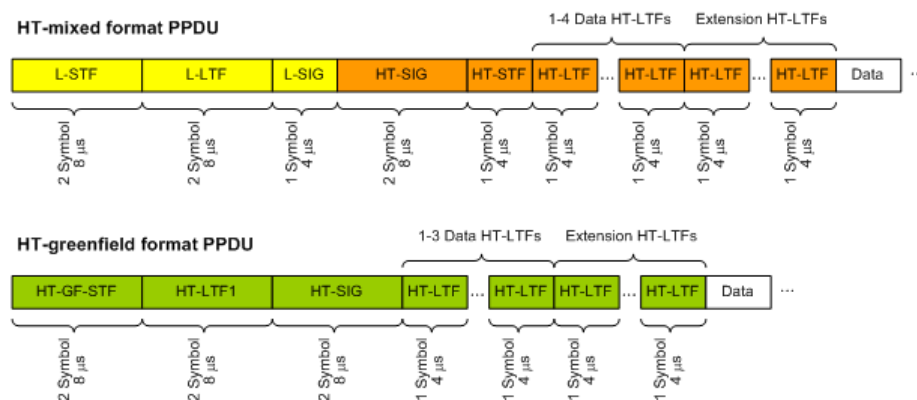

Figure 4-4: Training fields (TF) in the preamble of PPDUs in IEEE 802.11n standard
For each space-time stream, at least one training field (the (V)HT-LTF) is included in every PPDU preamble (see Figure 4-4). Each sender antenna transmits these training fields, which are known by the receive antenna. The effective channel can be calculated from the received (and known) (V)HT-LTF symbols of the preamble, without knowledge of the spatial mapping matrix or the physical channel. Thus, the effective channel can always be calculated.
(For IEEE 802.11n see also Figure 4-4)